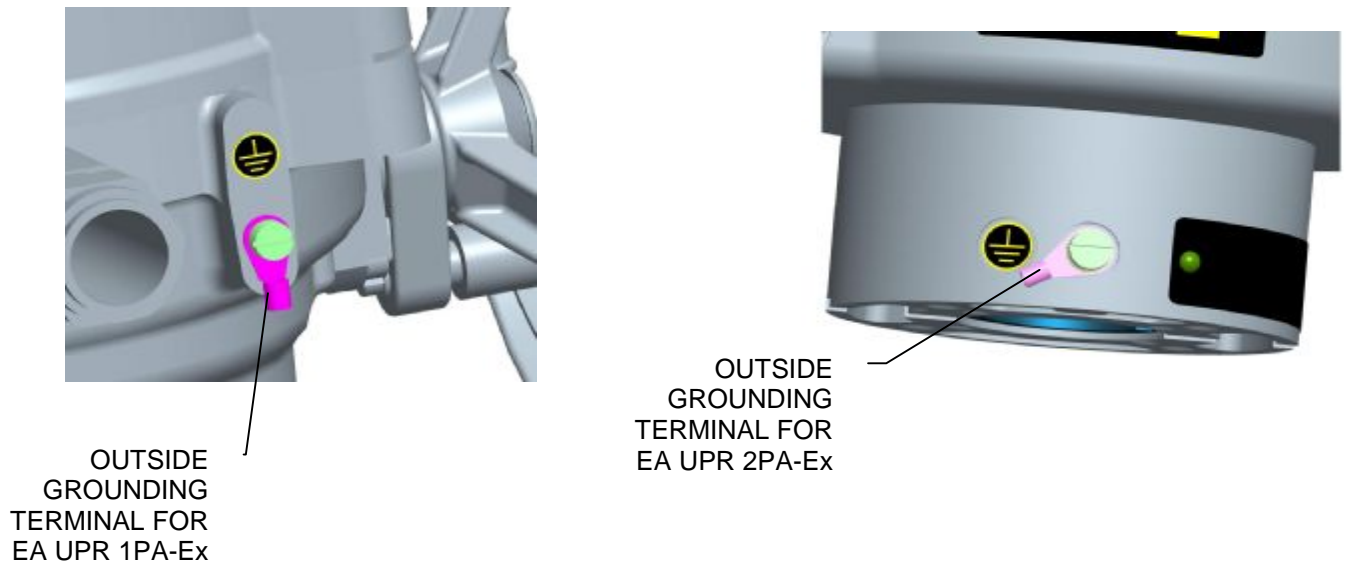
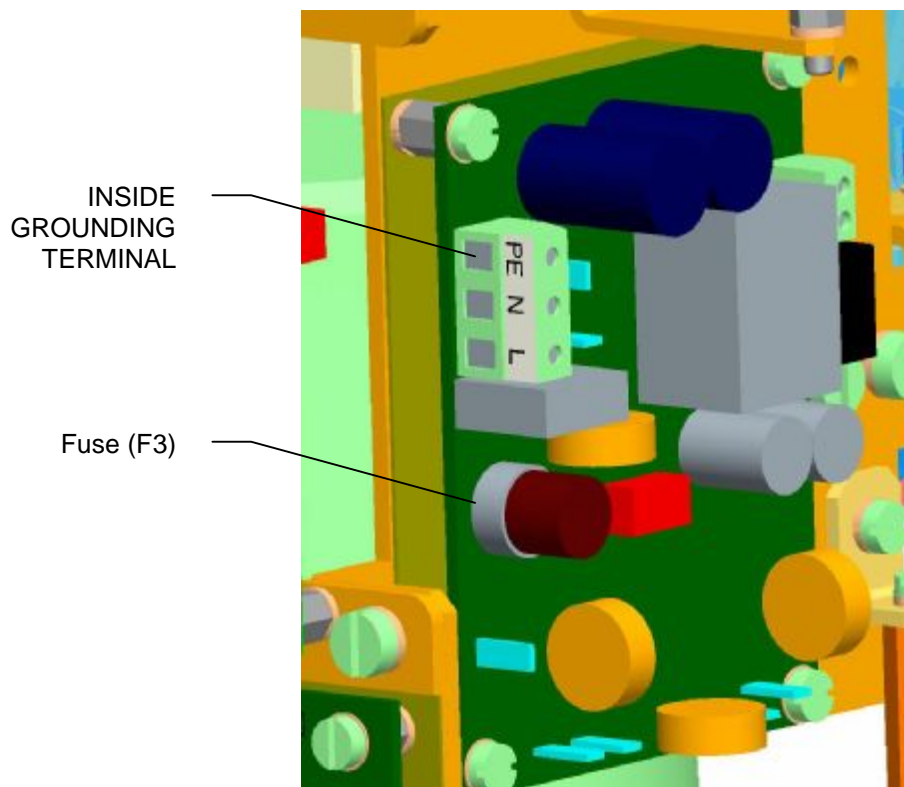

Fig.1c
Fig.1d
- for safe use of the actuator it is necessary to connect the outside and inside grounding terminal. The position of the outside and inside grounding terminal can be seen in Fig. 1c and Fig. 1d. HP3 insulated eyelet crimping pliers should be used to crimp wire to the outside grounding terminal (fy CEMBRE).
Actuator power supply board is installed with power supply fuse (F3). Location of the fuse on the power supply board can be seen in Fig.1d.